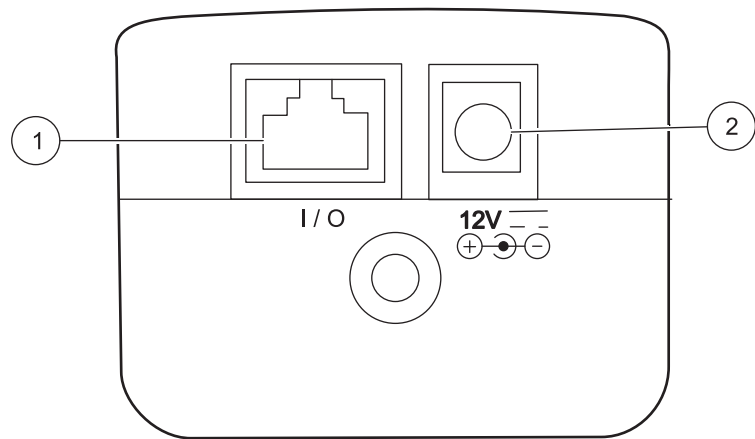

Figure 5 Location of power port
- 3. Plug the external power supply jack into the MET ONE HHPC-2 power port (refer to Figure 5, item 1).